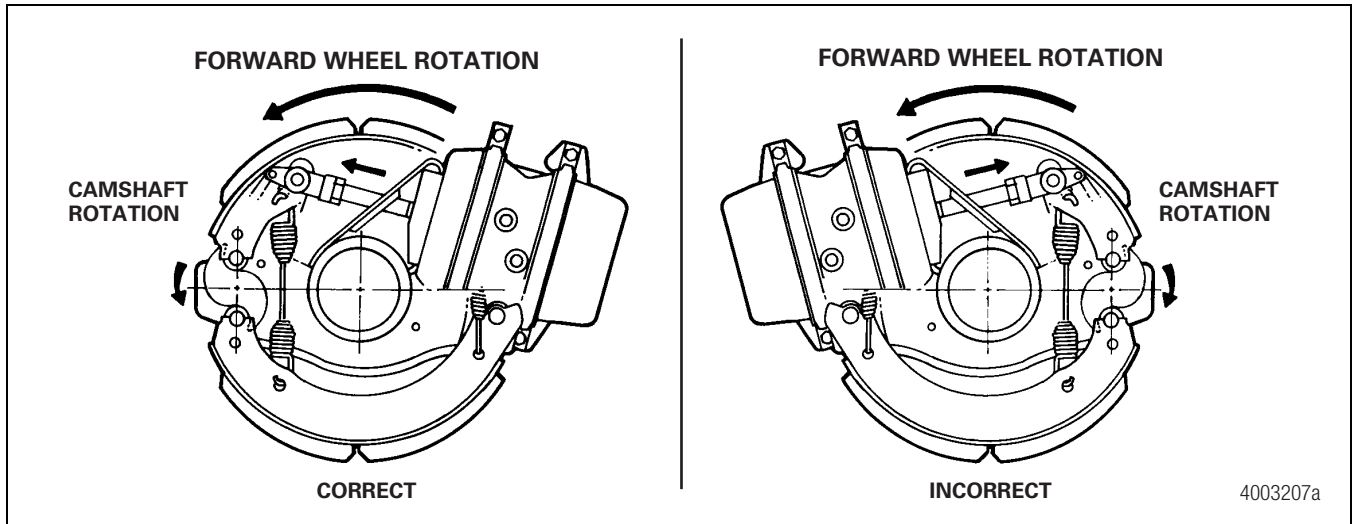

Figure 6.5
- Trailer axles built with cam brakes should be installed so that the camshaft rotates in the same direction as the tires when the vehicle is moving forward. Figure 6.5.